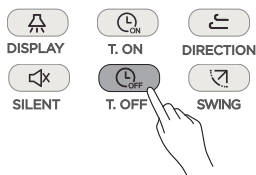

Figure 3.15
- ② Press  or ,  to adjust the timer settings;
- ③ Once the adjustment is done, the timer information is sent to the indoor unit.
- ① Press  (see Figure 3.15), and the remote controller will display "Timer Off", and "0.0h Later Off" will appear in timer area. Adjust the Timer Off settings now;